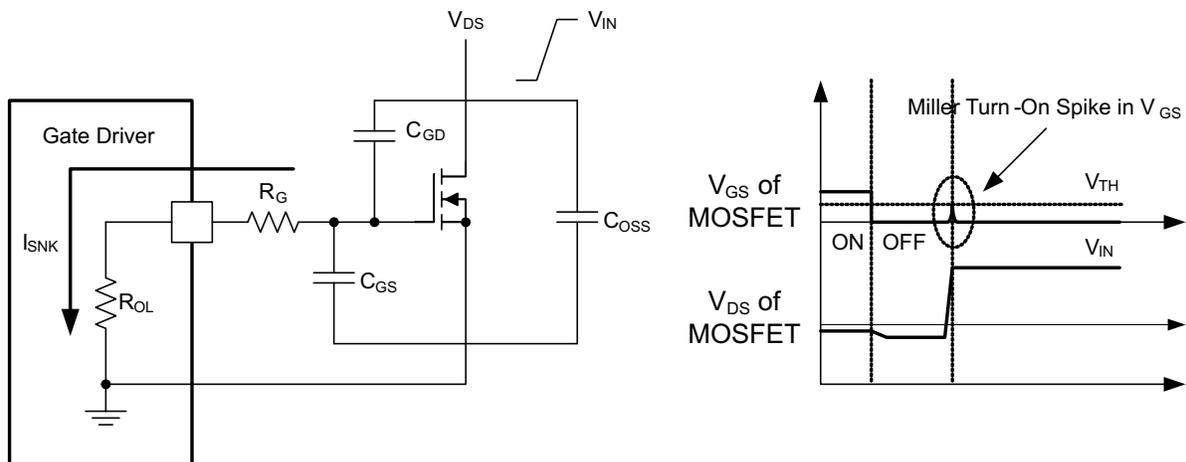

Figure 40. Low Pull-Down Impedance in UCC2753x (Output Stage Mitigates Miller Turn-On Effect)
An example of a situation where Miller turnon is a concern is synchronous rectification (SR). In SR application, the dV/dt occurs on MOSFET drain when the MOSFET is already held in OFF state by the gate driver. The current charging the C_{GD} Miller capacitance during this high dV/dt is shunted by the pull-down stage of the driver. If the pull-down impedance is not low enough then a voltage spike can result in the V_{GS} of the MOSFET, which can result in spurious turnon. This phenomenon is illustrated in Figure 40.